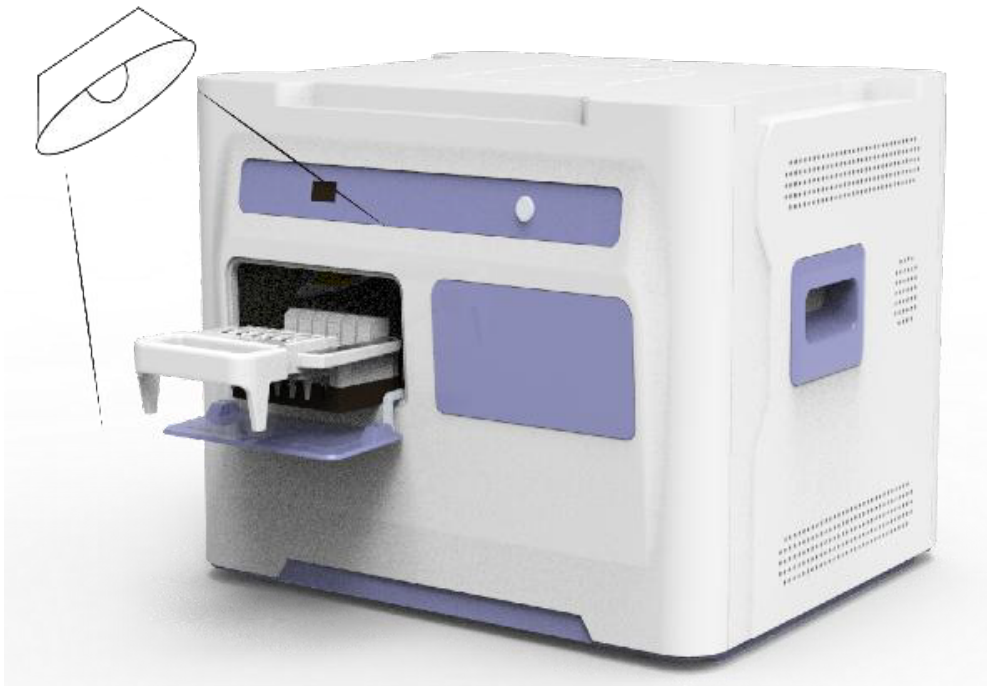

Figure 9-1 UV Disinfection
- The “compartment door” is opened, load the iCassette Tray (No reagent loaded) to the tray holder with 1/3 part inside, as shown in figure 9-1.